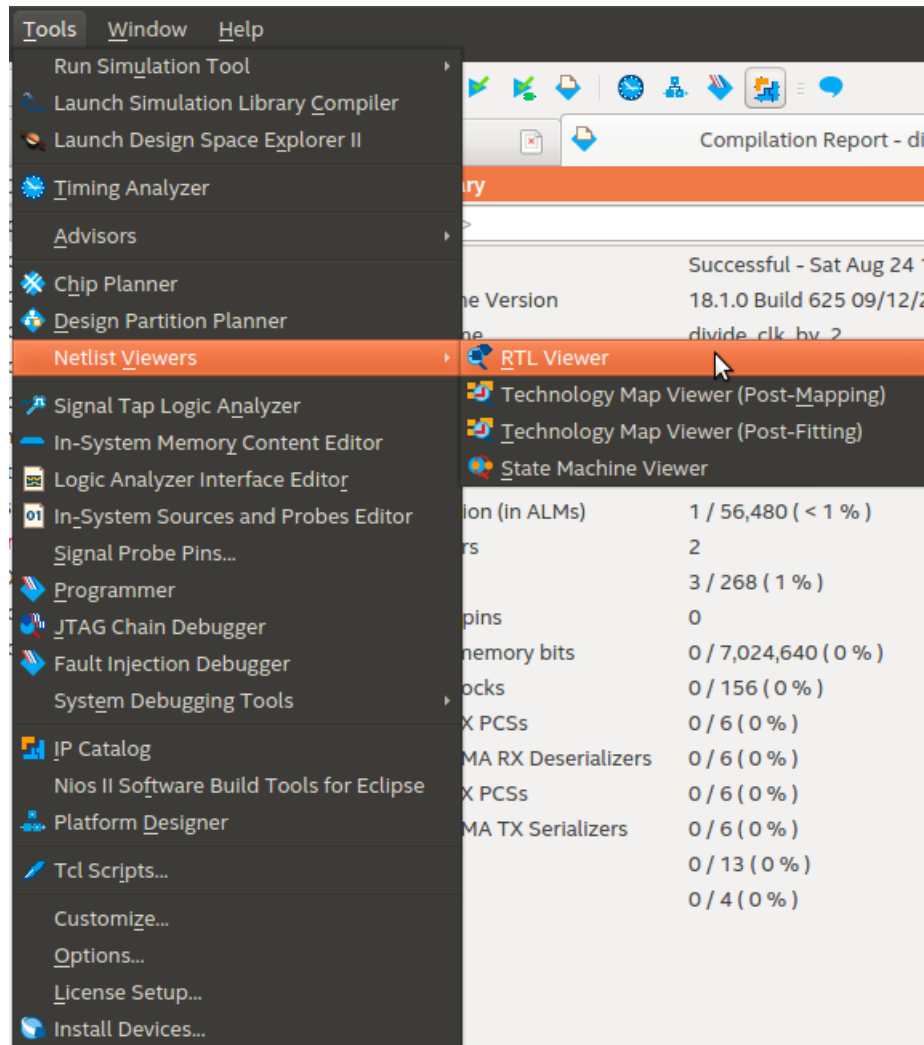

Figure 26: RTL view menu.
12. The next step is to have a look at the inferred Register-Transfer Level (RTL). From the top menu, select **Tools** → **Netlist Viewers** → **RTL Viewer**, as shown in Figure 26.